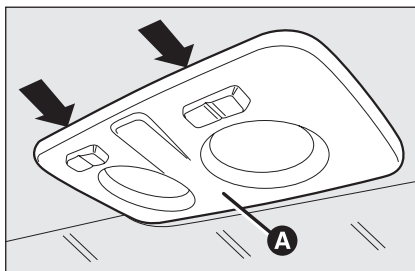
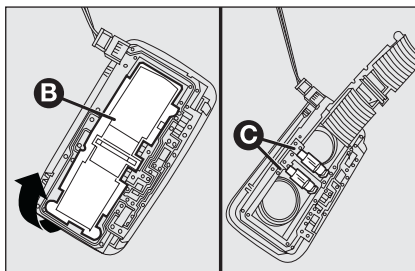

fig. 36
fig. 37
- ☐ work in the points shown by the arrows and remove light **A-fig. 36**;
- ☐ open the protection lid **B-fig. 37**;
- ☐ re-close the lid **B-fig. 37** and secure light **A-fig. 36** into its housing locking it properly.